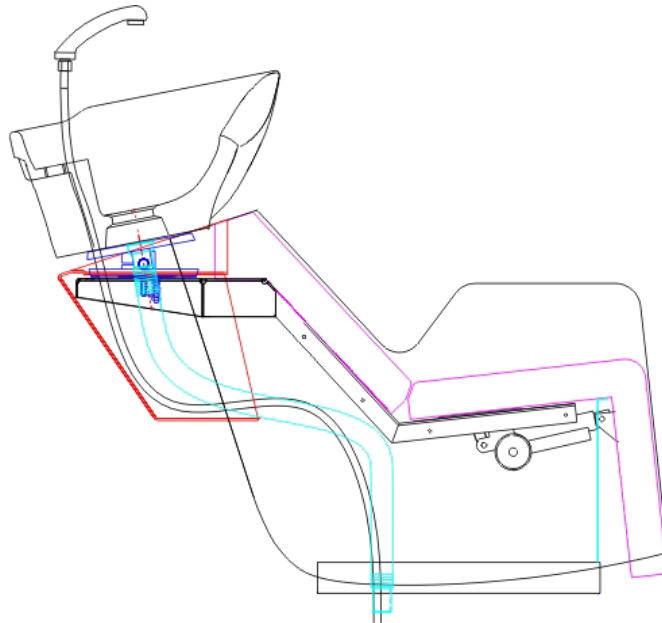

Fig.5
- 6) Proceed with the hydraulic connections, making sure to verify the easy movement of the sink with its maximum range of tilting.(fig.5)